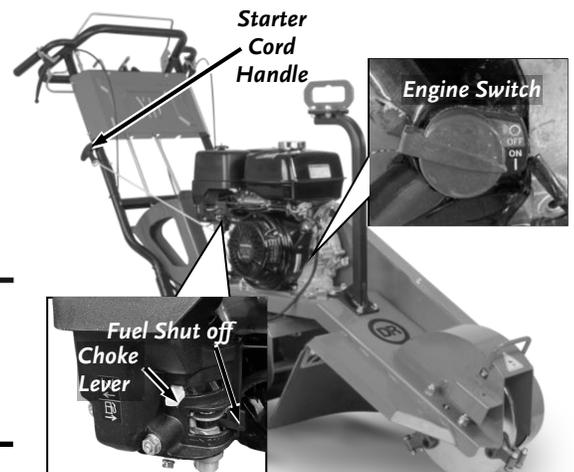

Figure 9
1. Make sure the Fuel Shut Off is in the “OPEN” position and the Engine Switch is set to ON (**Figure 9**).
2. Move the Choke Lever to the Left to the choke position (leave in the Run position to the Right if the engine is already warm **Figure 9**).
6. When the Engine is warmed up and running smoothly, ensure that the Choke is fully in the Run position to the Right (**Figure 9**).